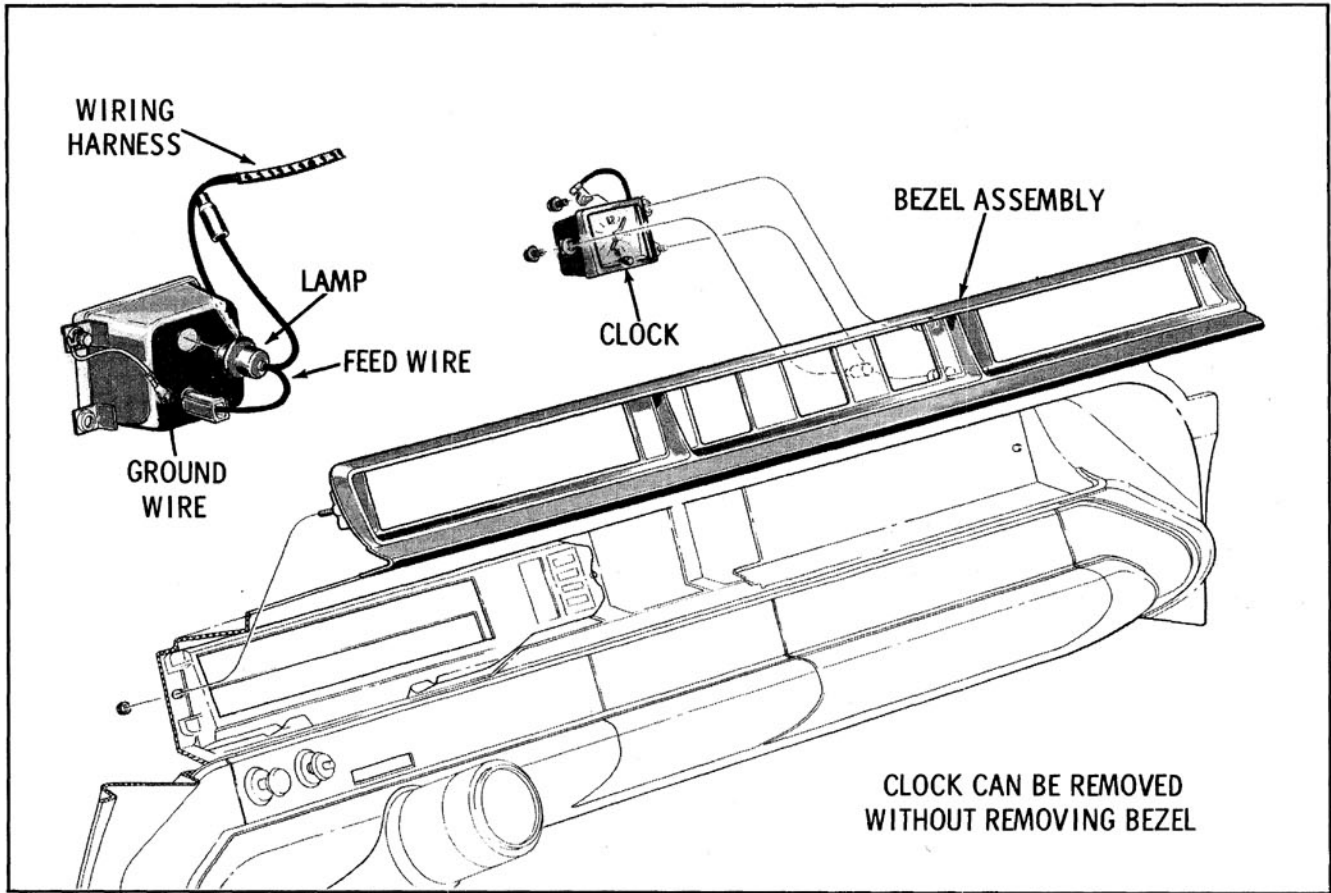

Fig. 12-4 Clock Installation
2. Disconnect clock feed and lamp. (Fig. 12-4)